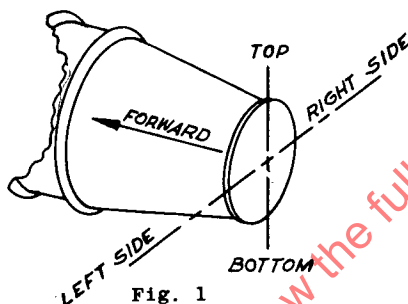

Fig. 1
- 3.3 Right and Left Sides - With the observer and engine facing forward, the right side of the engine will correspond with the observer's right and the left side with the observer's left. (See Fig. 1)